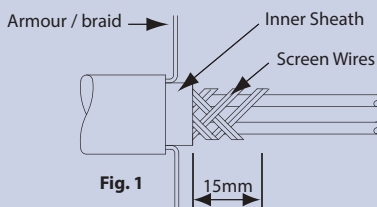

Fig. 1
- 2.2 Remove a further 15mm of inner sheath (See Fig. 1).